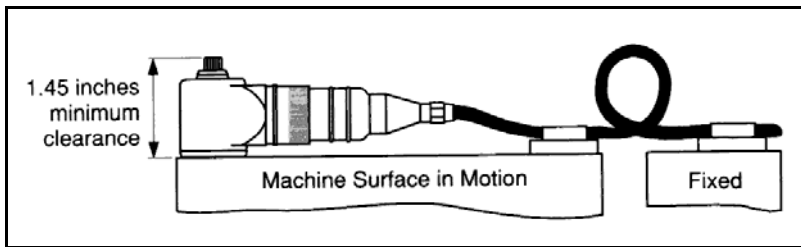

Figure 2 : Securing the cable
5. Anchor the cable to reduce stress at the cable terminations. When securing the cable, leave enough slack to allow free movement of the velocity sensor as shown in Figure 2.